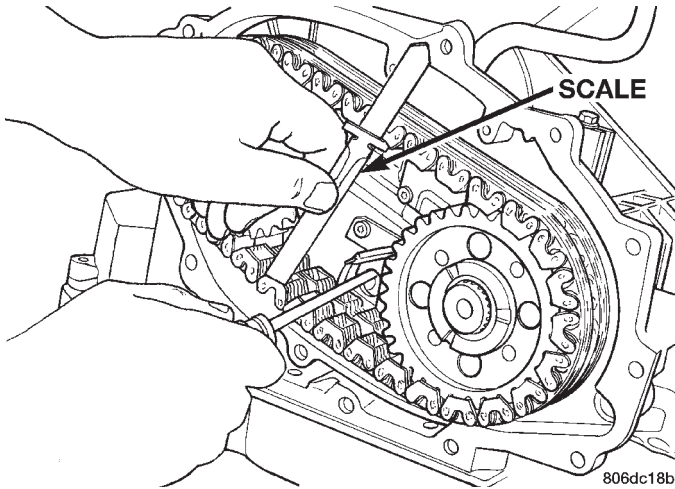

Fig. 302 Chain Measurement
(3) Butt a scale against the snubber and mark the scale at the bottom of the chains (Fig. 302).